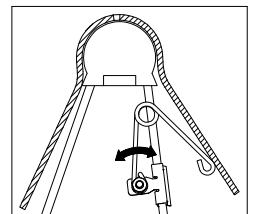

Figure G2: Cutaway view of
- Set coupler angle.** Adjust the resting angle of your coupler plate by rotating the spring on the driver side pivot arm. Pulling the top of the spring away from the cab will increase the angle of the coupler plate. Set the angle of the coupler so that it will tilt away from the cab when coupling, see Figure G2. Tighten the 1/4" nut once the spring's orientation is set.